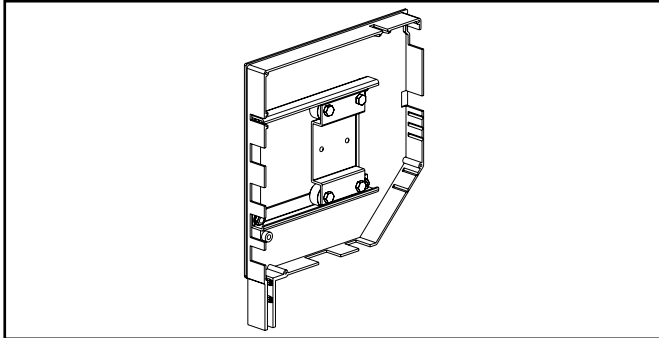

Fig. 14 : Sliding bearings
- **Sliding bearing:** (see figure 14)